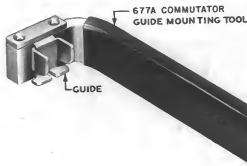

Fig. 11 - Position of Guide When Inserted in 677A Commutator Guide Mounting Tool
3.26 Insert the tab of the guide into the slot in the offset end of the 677A commutator guide mounting tool as shown in Fig. 11.